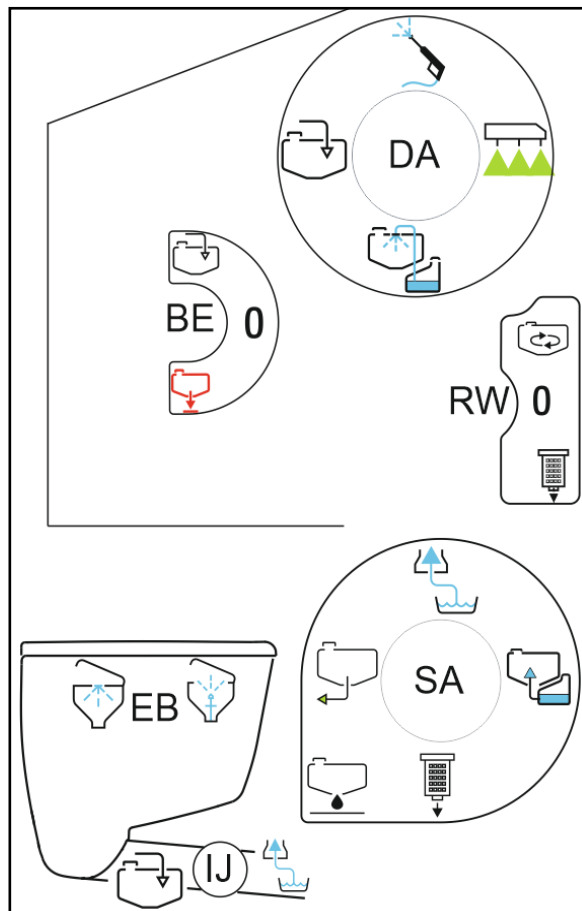

Fig. 115
2. Remove the pressure filter (Fig. 115/1) and clean with water.